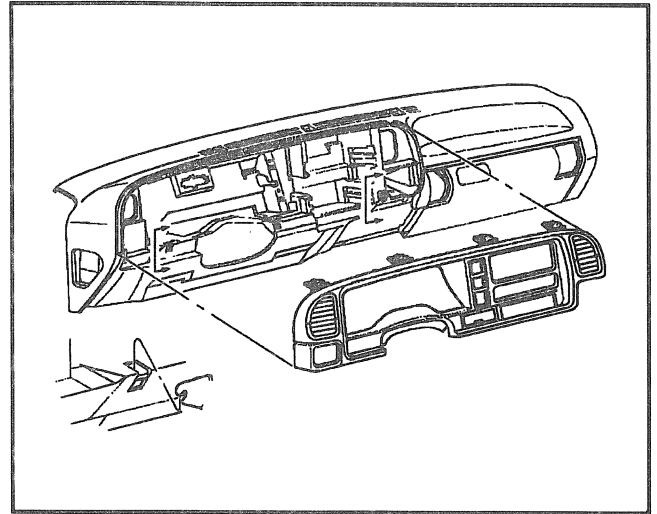

Figure 20—Instrument Cluster Trim
3. Instrument cluster trim (Figure 20).